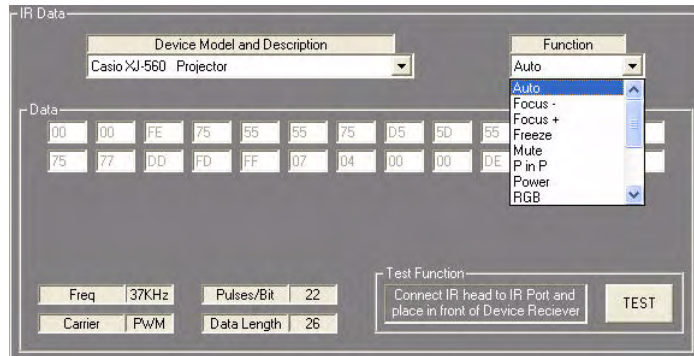

FIG. 57 AMX Library Files dialog - Selecting a Function for testing
1. In the AMX IR Libraries dialog, select the function to test from the *Function* drop-down menu (FIG. 57).